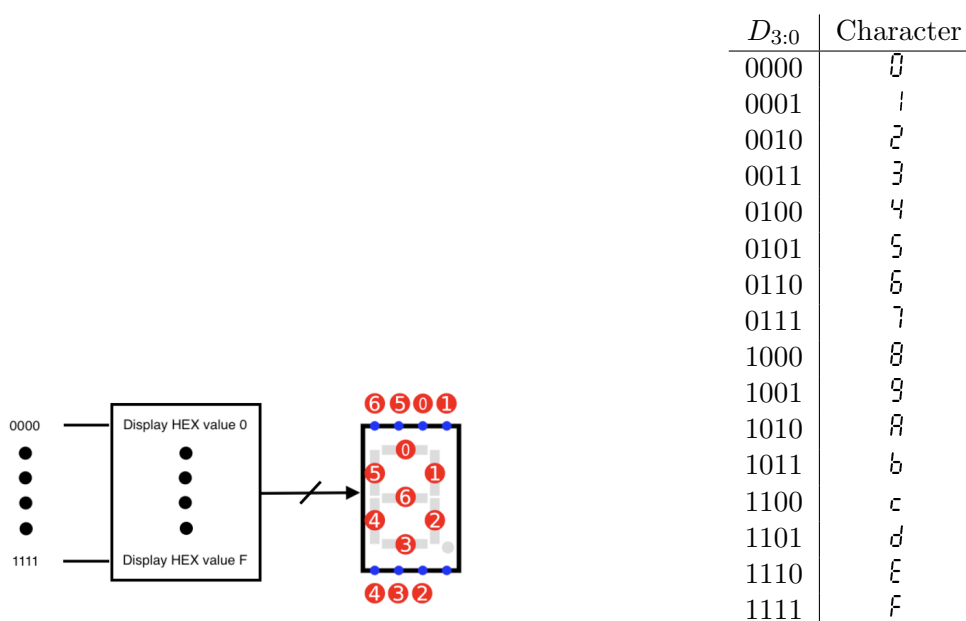

Figure 2.4: A decoder driving a 7-segment display      Table 2.2: The desired behaviour of the decoder
In this part, you design a decoder for a 7-segment display (Figure 2.4). As the name implies, the display has seven segments (lines) that can be ON or OFF. The 7-segment display shown in Figure 2.4 has a number associated with each segment. So we can refer to a segment by its number. For example, the top-most horizontal segment is  $S_0$ , which we can turn ON or OFF by driving pin 0 (third dot from the left at the very top of the display).
5. In the same file, in your top-level circuit, create a circuit like the one shown in Figure 2.4. The circuit should have four input pins called `SW3`, `SW2`, `SW1`, and `SW0`. Once again, use hierarchical design to instantiate your `HEX_DECODER` subcircuit. In Logisim Evolution, you can find the 7-Segment Display under **Input/Output**; your top-level circuit should not have an output pin, only the 7-segment display. When you are done, remember to upload your designs (i.e., the `.circ` file) as part of your required files.